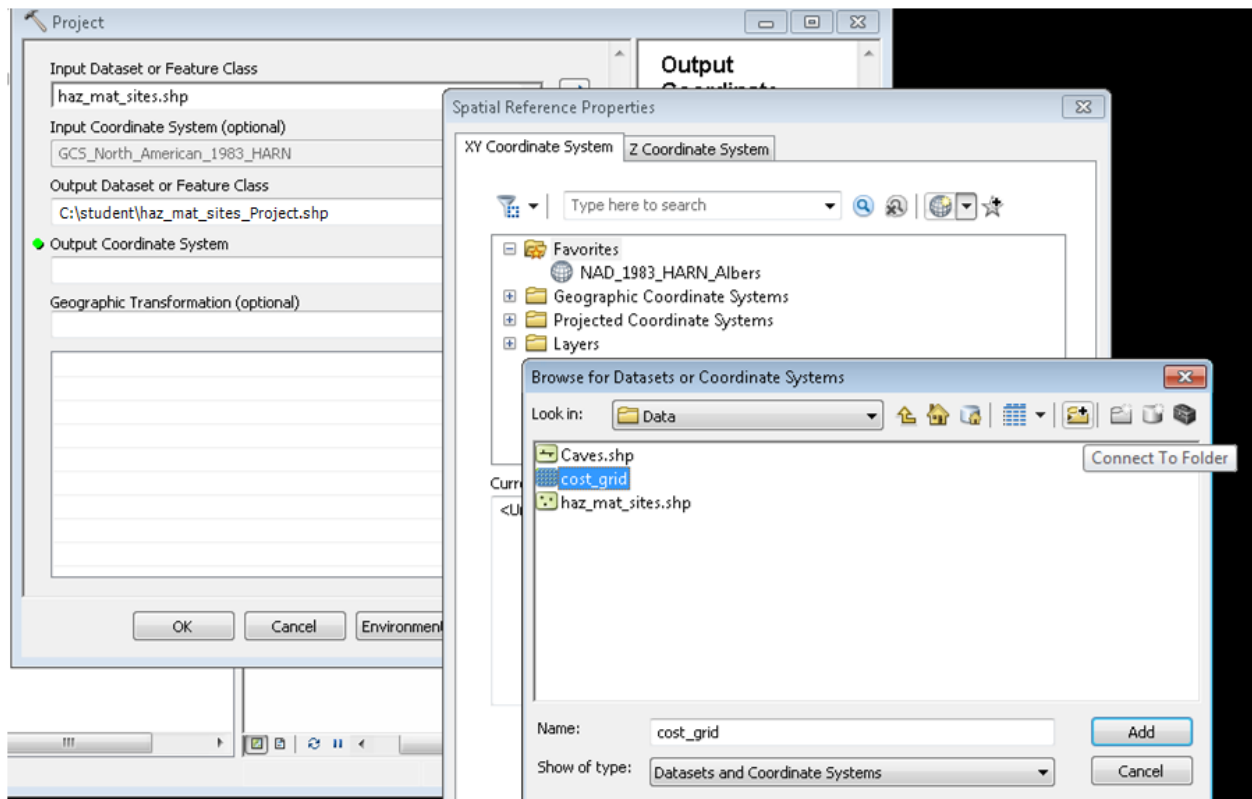

Figure 7. Projecting the hazardous material sites using an imported coordinate system
- 4 Click the icon beside the *Output Coordinate System* window. A new window called *Spatial Reference Properties* opens. Import by clicking on the dropdown next to the small globe shaped icon and choosing *Import*. Then browse to your student folder. Select *cost_grid* as the dataset from which projection information will be imported and click *Add* (figure 7). Click *OK*, then click *OK* again to initiate the projection.